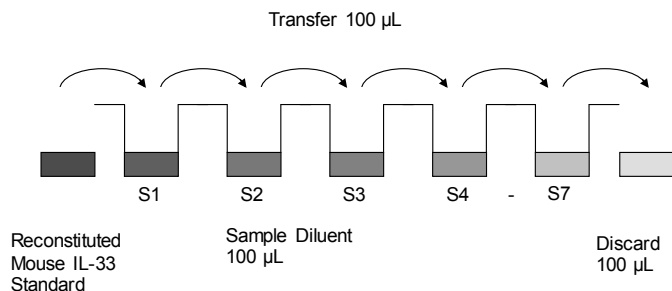

Fig. 7 Dilute standards - microwell plate
- Standard dilution on the microwell plate (Alternatively the standard dilution can be prepared in tubes – see “External standard dilution” on page 3): Add 100 µL of Sample Diluent in duplicate to all standard wells. Pipette 100 µL of prepared standard (see “Mouse IL-33 standard” on page 3, concentration = 6000 pg/mL), in duplicate, into well A1 and A2 (see Table 1). Mix the contents of wells A1 and A2 by repeated aspiration and ejection (concentration of standard 1 S1 = 3000 pg/mL), and transfer 100 µL to wells B1 and B2, respectively (see Figure 7). Take care not to scratch the inner surface of the microwells. Continue this procedure 5 times, creating two rows of mouse IL-33 standard dilutions, ranging from 3000.0 pg/mL to 46.9 pg/mL. Discard 100 µL of the contents from the last microwells (G1, G2) used.